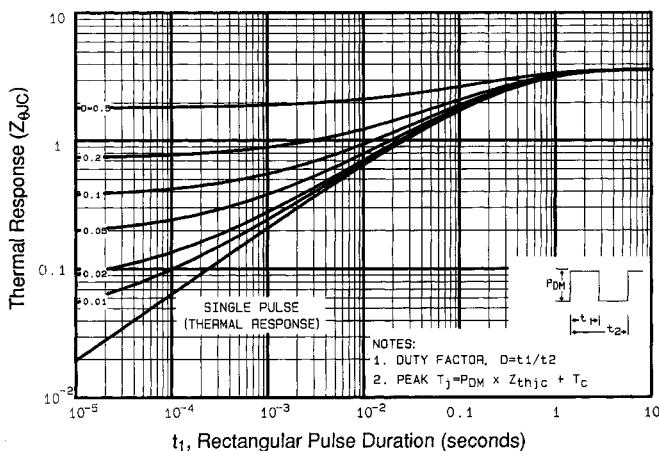

Fig 11. Maximum Effective Transient Thermal Impedance, Junction-to-Case
① Repetitive rating; pulse width limited by max. junction temperature (See Figure 11)
③ $I_{SD}\leq 6.5\text{A}$, $di/dt\leq 120\text{A}/\mu\text{s}$, $V_{DD}\leq V_{(\text{BR})\text{DSS}}$, $T_J\leq 150^\circ\text{C}$
⑤ $t=60\text{s}$, $f=60\text{Hz}$
② $V_{DD}=-50\text{V}$, starting $T_J=25^\circ\text{C}$, $L=38\text{mH}$